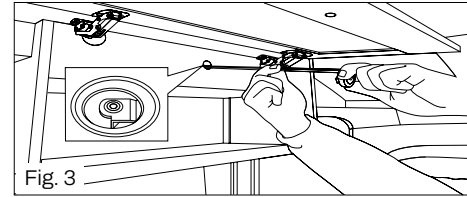

Fig. 3
Step 3 Insert the rod into the hook on the motor. Turn it clockwise to raise the bed, anti-clockwise to lower it (Fig. 3).
- Press and hold the handle (Fig. 3) to rotate the table.